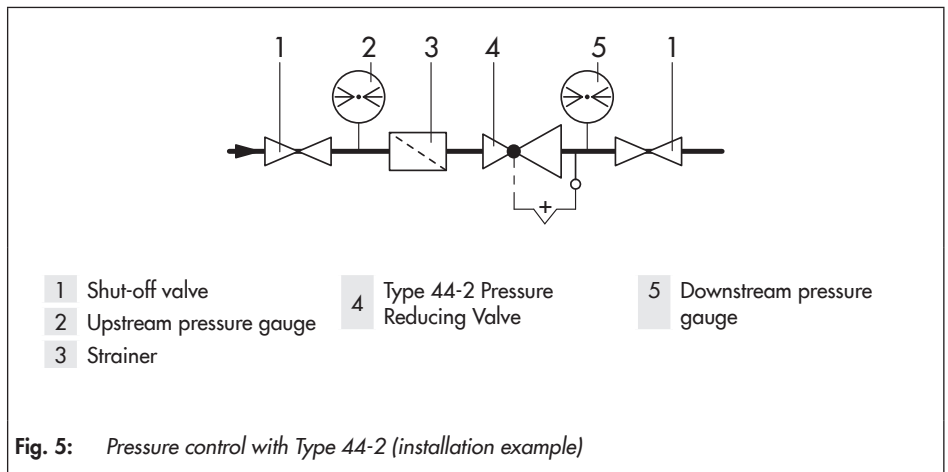
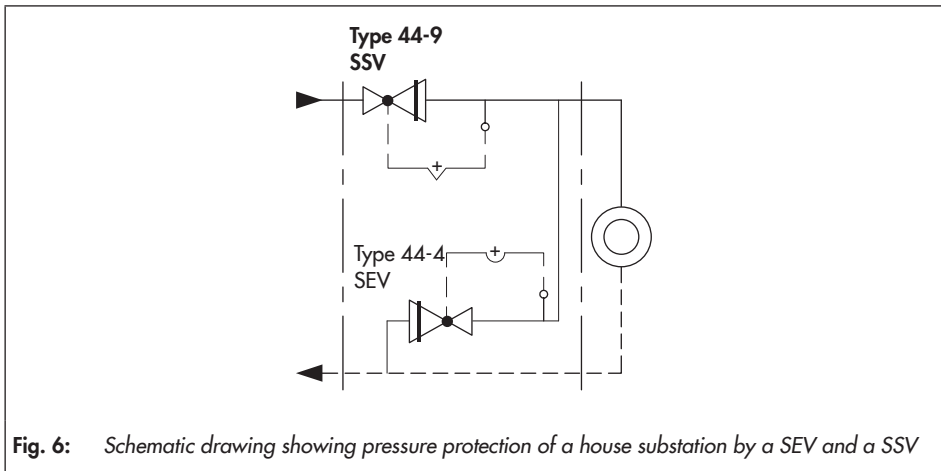

Fig. 5: Pressure control with Type 44-2 (installation example)
Fig. 6: Schematic drawing showing pressure protection of a house substation by a SEV and a SSV
- See schematic drawings of typical installations (Fig. 5 and Fig. 6).
Install a hand-operated shut-off valve both upstream of the strainer and downstream of the regulator (see Fig. 5). This allows the plant to be shut down for cleaning and maintenance, and when the plant is not used for longer periods of time.
Install a pressure gauge both upstream and downstream of the regulator to monitor the pressures prevailing in the plant (see Fig. 5).